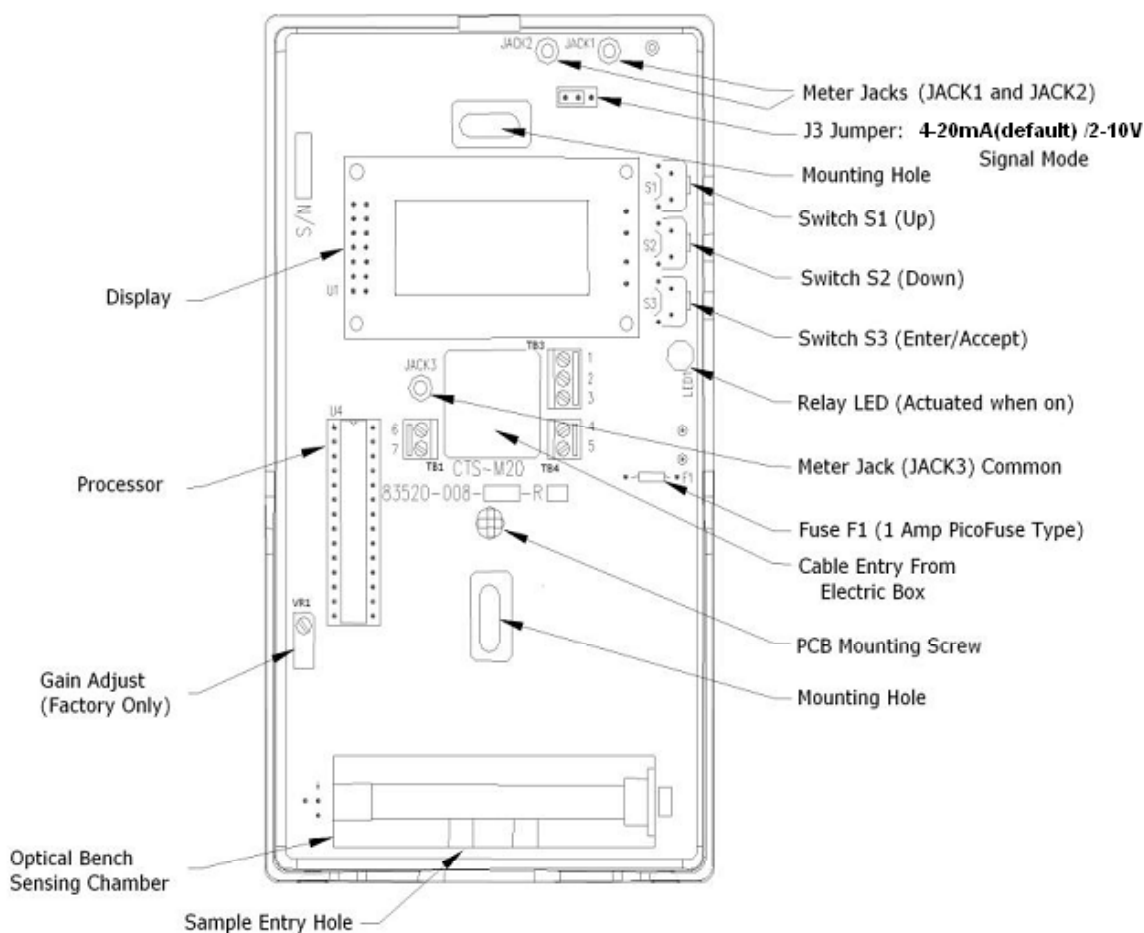

Figure 1 - Internal View and Features
**NOTE:** It is not necessary to open the enclosure to perform calibration or to change the default settings. The 'keypad' switches are located in the upper right side of the enclosure, and the gas ports are located at the bottom (see Figure 1).